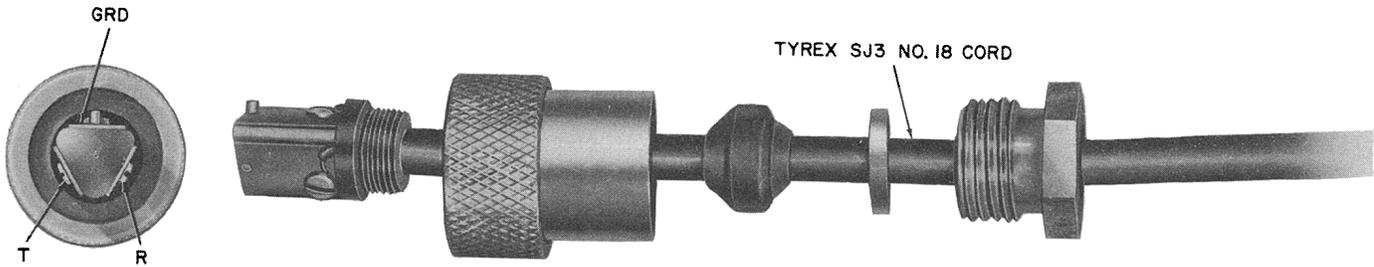

Fig. 8 — KS-8419 Plug
**2.08** The KS-8419 plug (Fig. 8) is a 3-contact, brass plug intended for connecting telephone sets installed on boats, trains, or auto trailers to the outlets of central office lines. This plug is intended for use with KS-8420 or KS-8421 jacks.